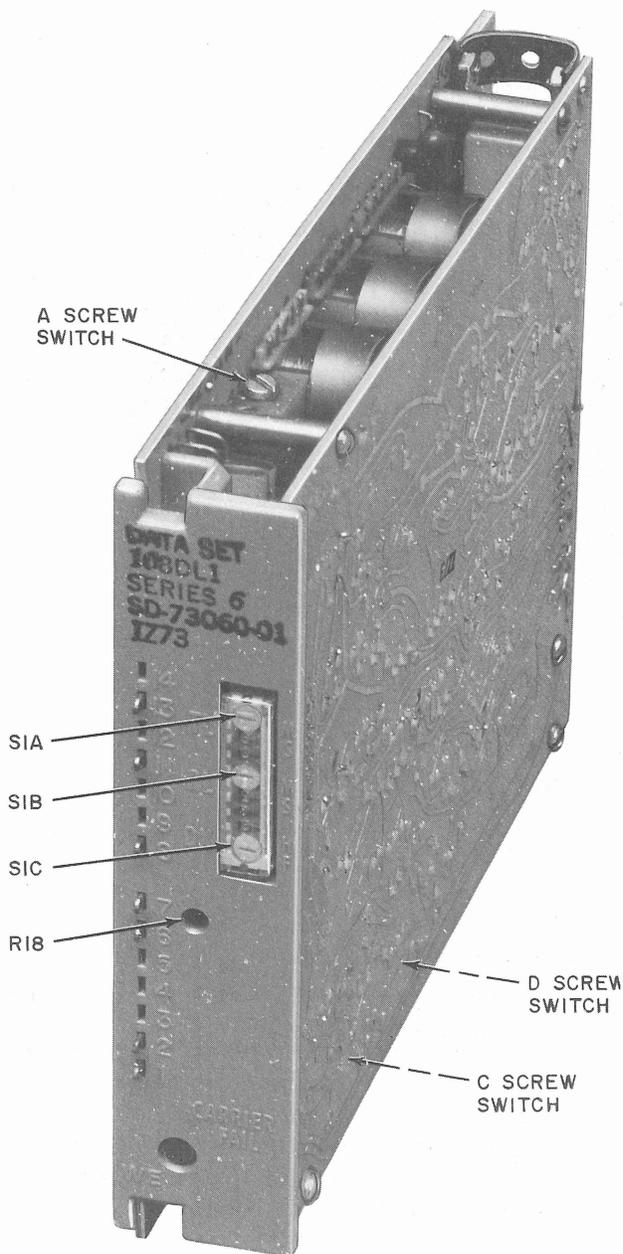
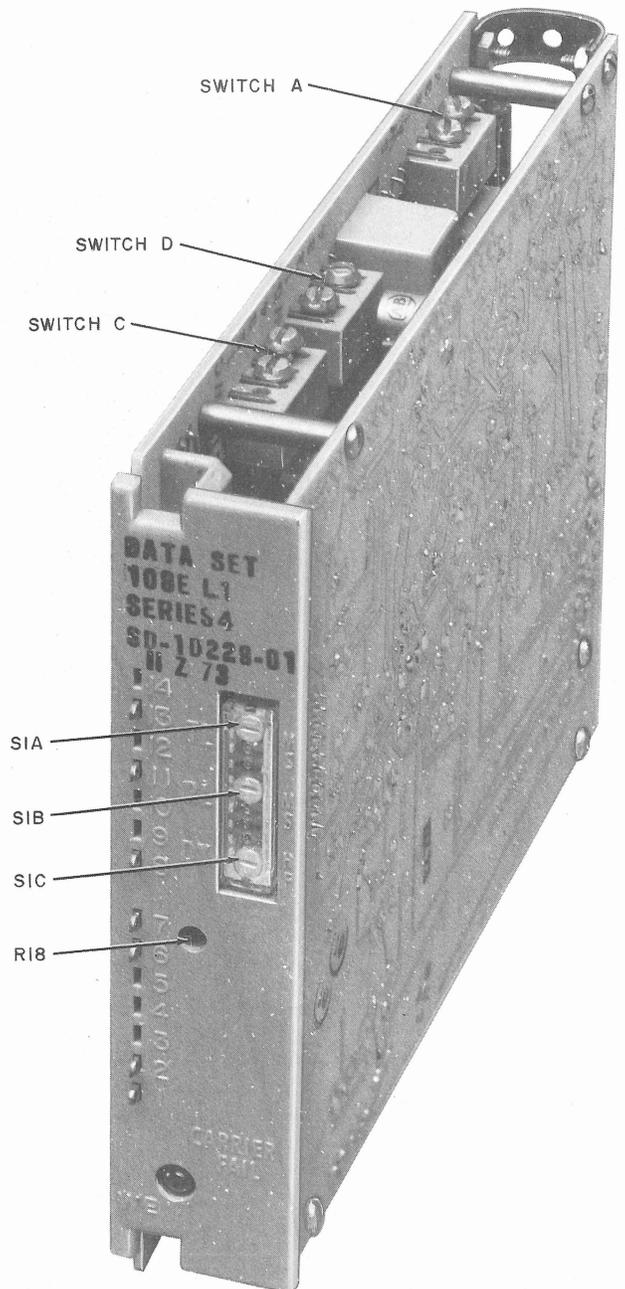
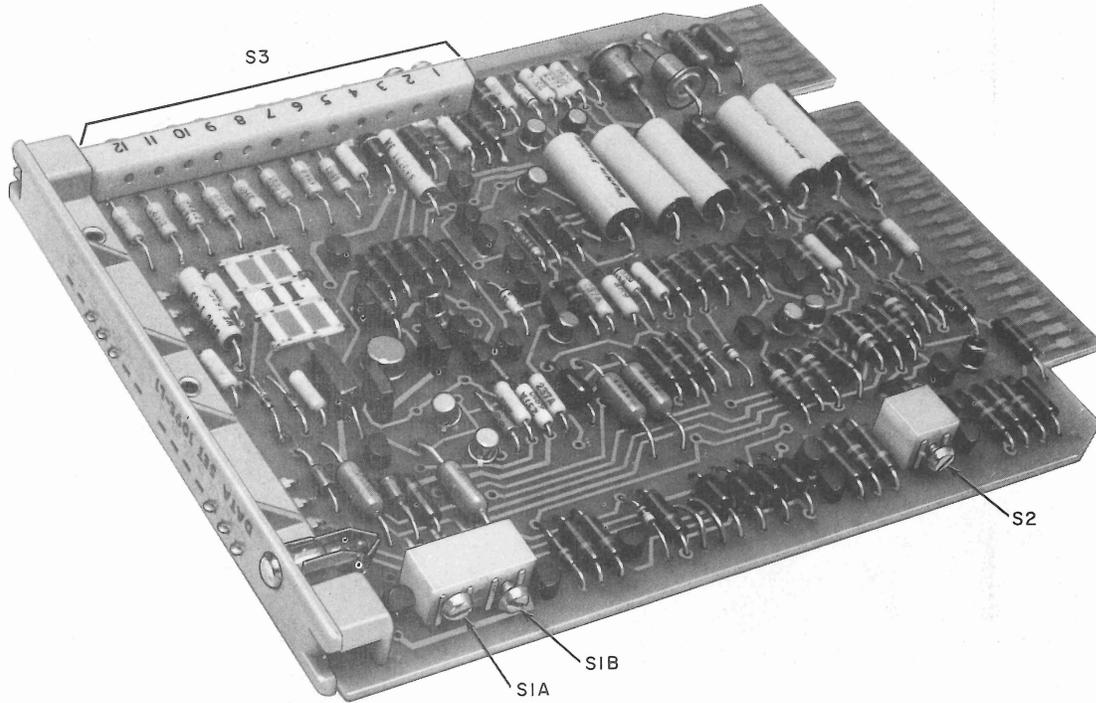

Fig. 8—Data Set 108D
Fig. 9—Data Set 108E
Fig. 10—Data Set 109E
3.03 Data sets 108D (Fig. 8), 108E (Fig. 9), or 109E (Fig. 10) are used in DAS 830A. The options provided by data set 108D and E are shown in Table C. The options provided by data set 109E are shown in Table D.